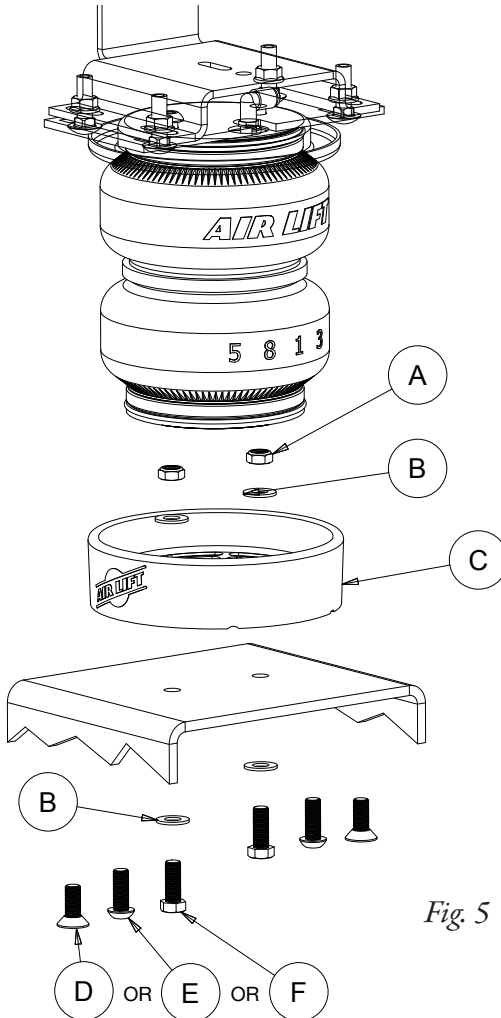

Fig. 5
- Use the supplied hardware that mimics the hardware used in your air spring kit for attaching the lower bracket to the air spring (Fig. 5). The air spring and universal air spring cradle should be aligned so that the air spring is contacting the universal air spring cradle in the center. Torque the air spring cradle hardware to 20 lb.-ft. (27Nm).